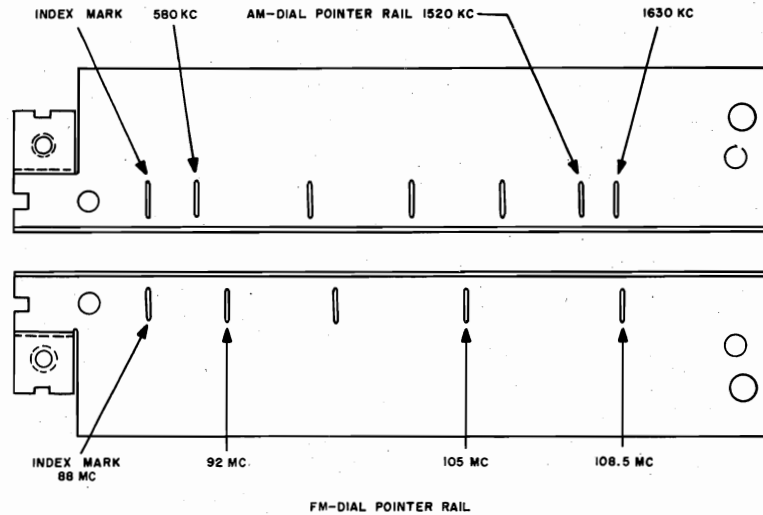

Figure 3. AM and FM Pointer Rails, Showing Alignment Marks
**DIAL POINTER**—Before the alignment is started, the dial pointer should be set to coincide with the index mark on the dial pointer rail assembly when the tuning gang is fully closed. See figure 3.